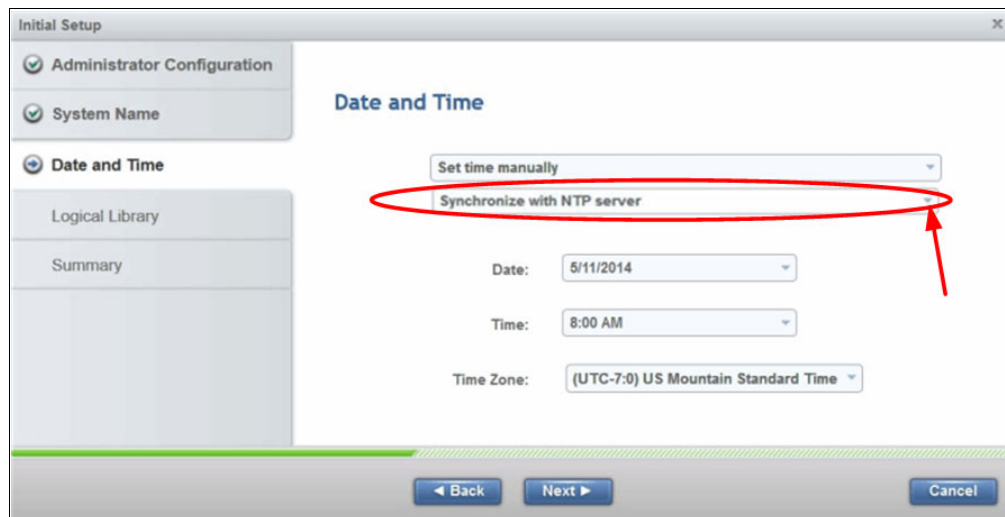

Figure 4-6 Date and time
2. In the next window, you can set the date and time for the library manually. Optionally, you can synchronize with a Network Time Protocol (NTP) server as shown in Figure 4-6.